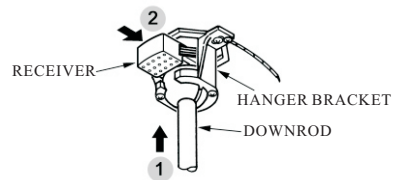

FIG.6
2. Carefully lift the fan and seat the down rod ball assembly on the hanger bracket. Be sure the groove in the ball is lined up with tab on the hanger bracket .Do not pinch wires between the ball and down rod assembly and hanger bracket .(See fig.6)